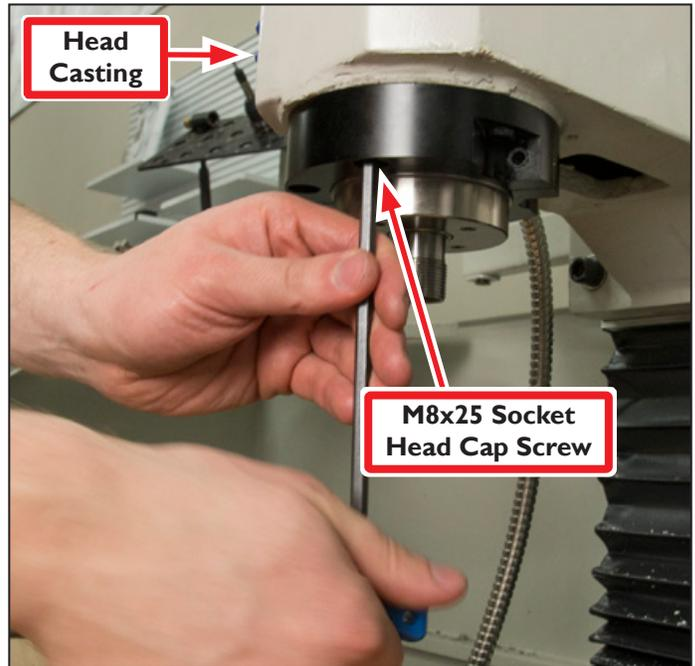

Figure 19
- Using a hex wrench, finish installing Clamping Collar with four remaining M8x25 mm Socket Head Cap Screws (included) as shown in **Figure 19**. Tighten all six securely.